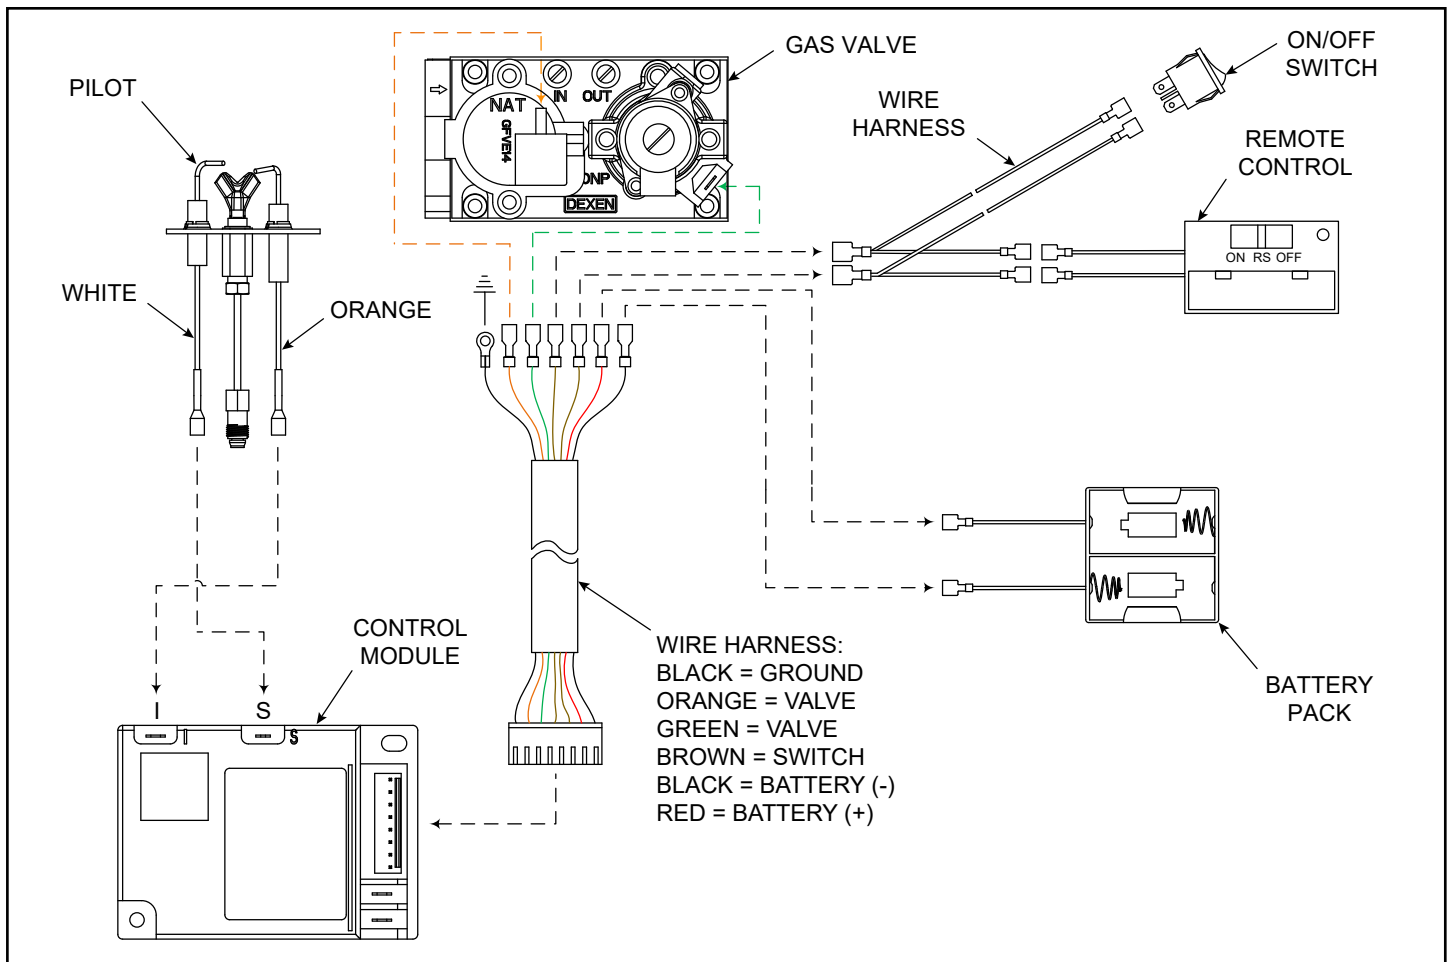

Figure 6.1 Wiring Diagram
- The intermittent pilot ignition system (IPI) on the Stadium series gas log set comes standard with an integrated battery pack, that holds (2) D size batteries.
- An ON/OFF Switch and Remote Control are supplied with the appliance. The Remote Control can be incorporated into this system by connecting to the remote switch wires as shown. See Figure 6.1